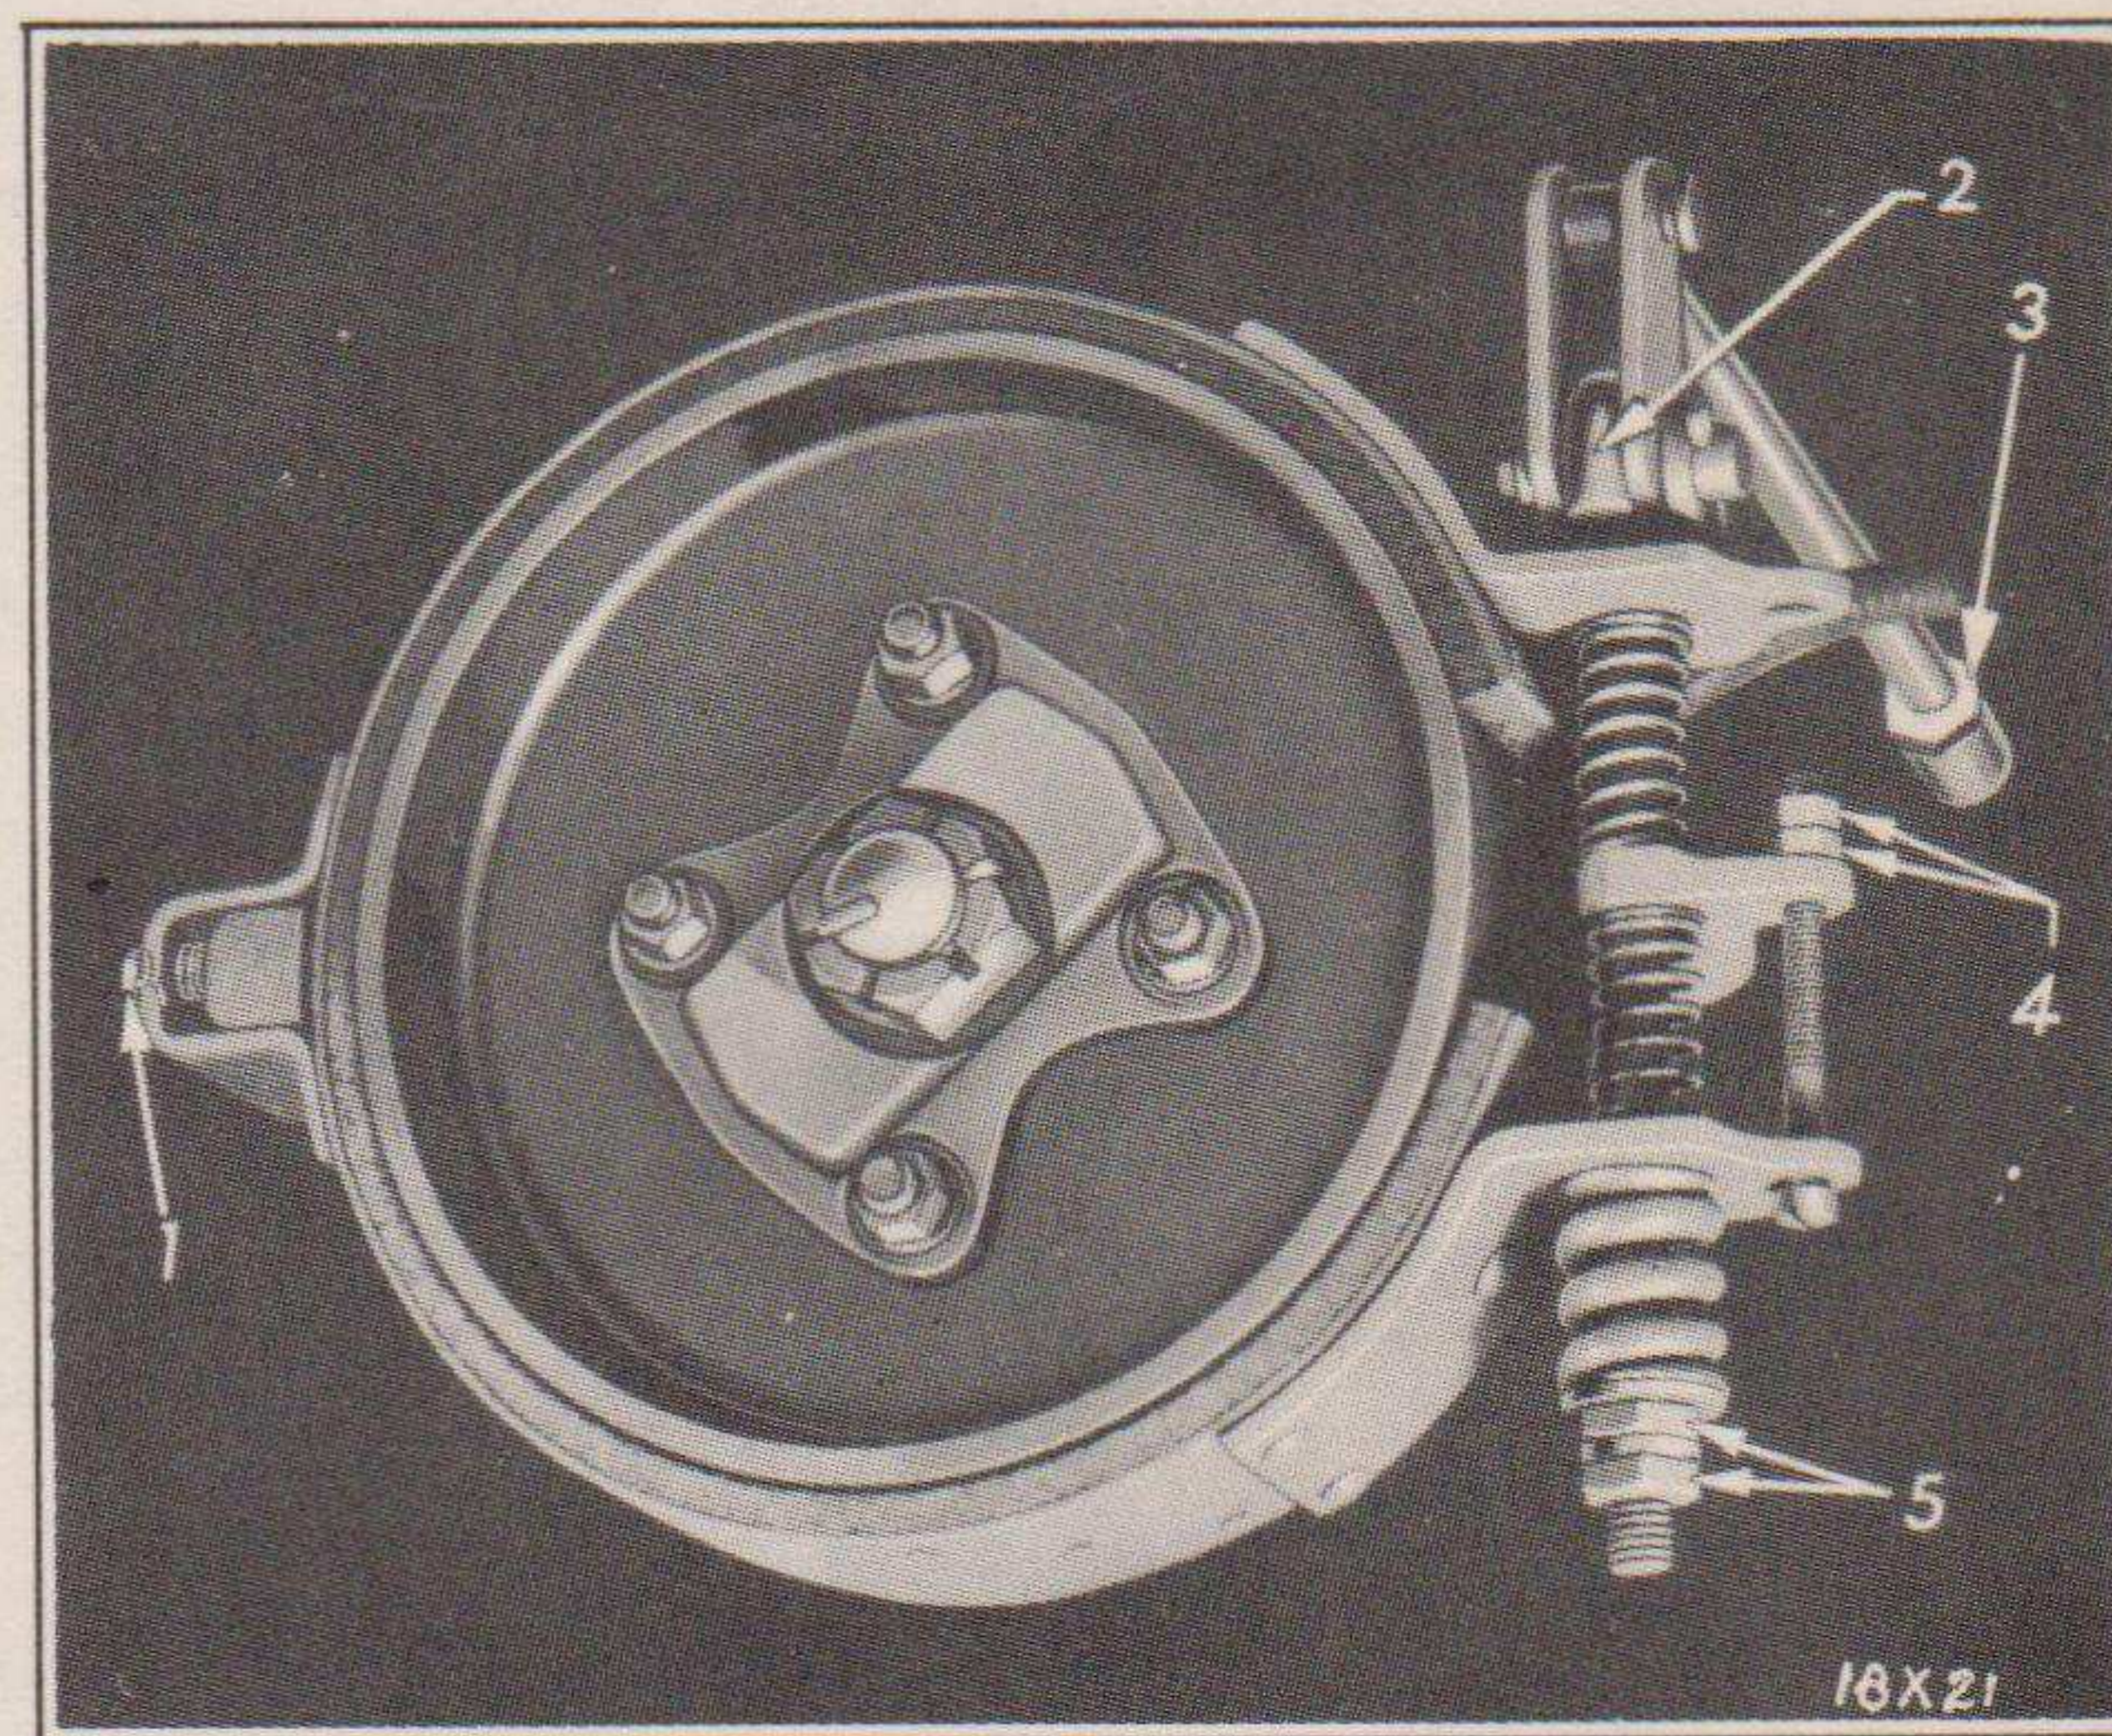

Fig. 85—Hand Brake
- (a) Remove the large adjusting bolt nuts (5, Fig. 85).
- (b) Remove the anchor screw lock wire and adjust the screw so the band and drum have .010" to .012" clearance at the anchor (1, Fig. 85).
- (d) Back off the adjusting bolt lock nuts (5, Fig. 85) until free.
- (e) Turn the bracket adjusting screw nut (4) after loosening the lock nut until the band and drum have .010" to .012" clearance.
- (g) Tighten the adjusting bolt nuts (5) until the tension on the guide bolt is just relieved at either end.